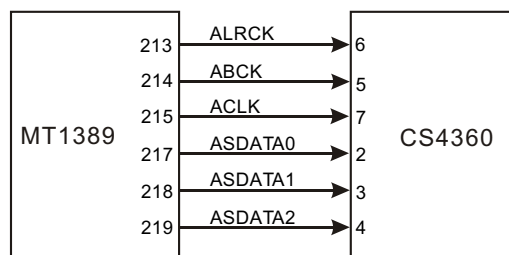

Figure 3.2.11.1 Diagram about the connection between MT1389 and Cs4360
1. The function of connect signal between MT1389 and Cs4360 is shown as the following figure 3.2.11.1: